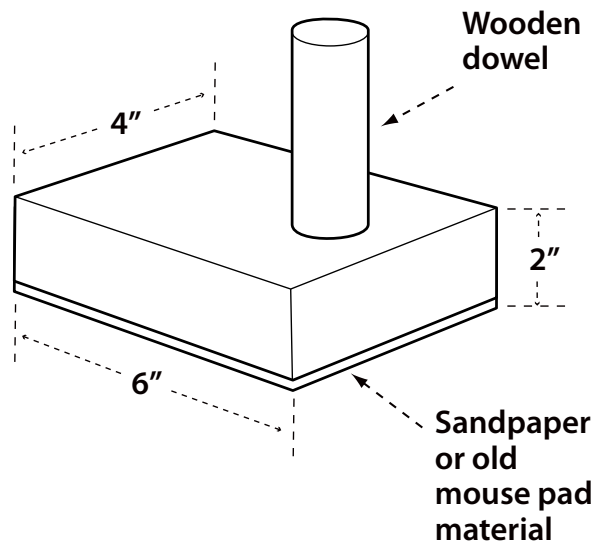

FIGURE 34
3. Glue a piece of rough or soft material such as sandpaper or rubber to the bottom of the block to grip the workpiece (old mouse pads work well). See Figure 34.